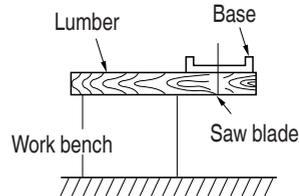

Fig. 10
- Prepare a wooden work bench (Fig. 10)